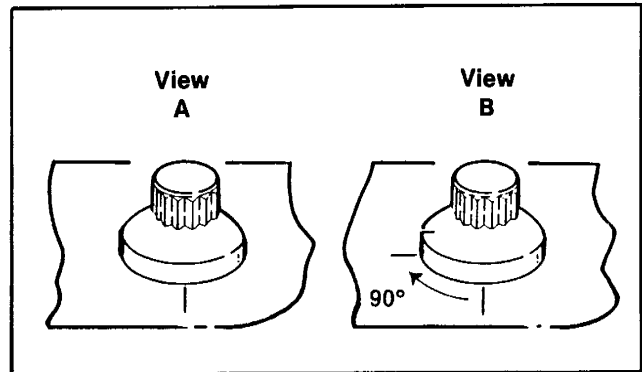

Figure 3-18. Tighten Head Bolts
- See Figure 3-18. Mark a line on the cylinder head and a corresponding line on the head of the cylinder head screw as shown in View A. Following the same sequence 1, 2, 3, then 4, turn each head screw, one at a time one quarter turn (90°) using the marks as a guide. When marks are all positioned, as in View B, the procedure is completed.